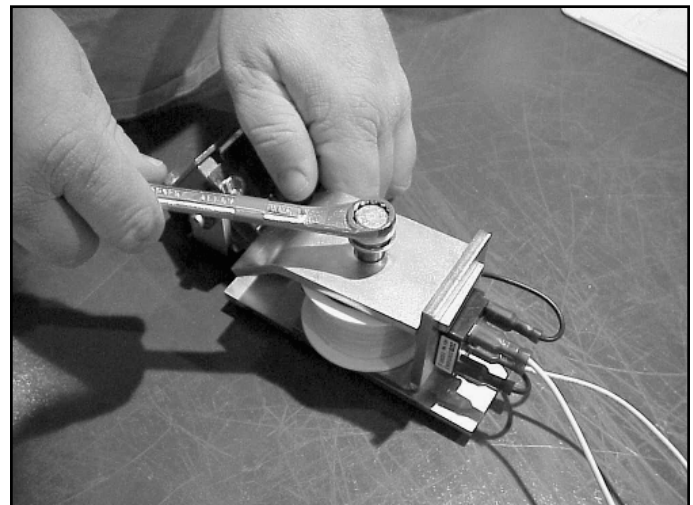

Figure 6: Coil core retaining bolt
3. Remove latch coil core retaining bolt (8mm x 1.25), Figure 6, and remove all components secured by this bolt.